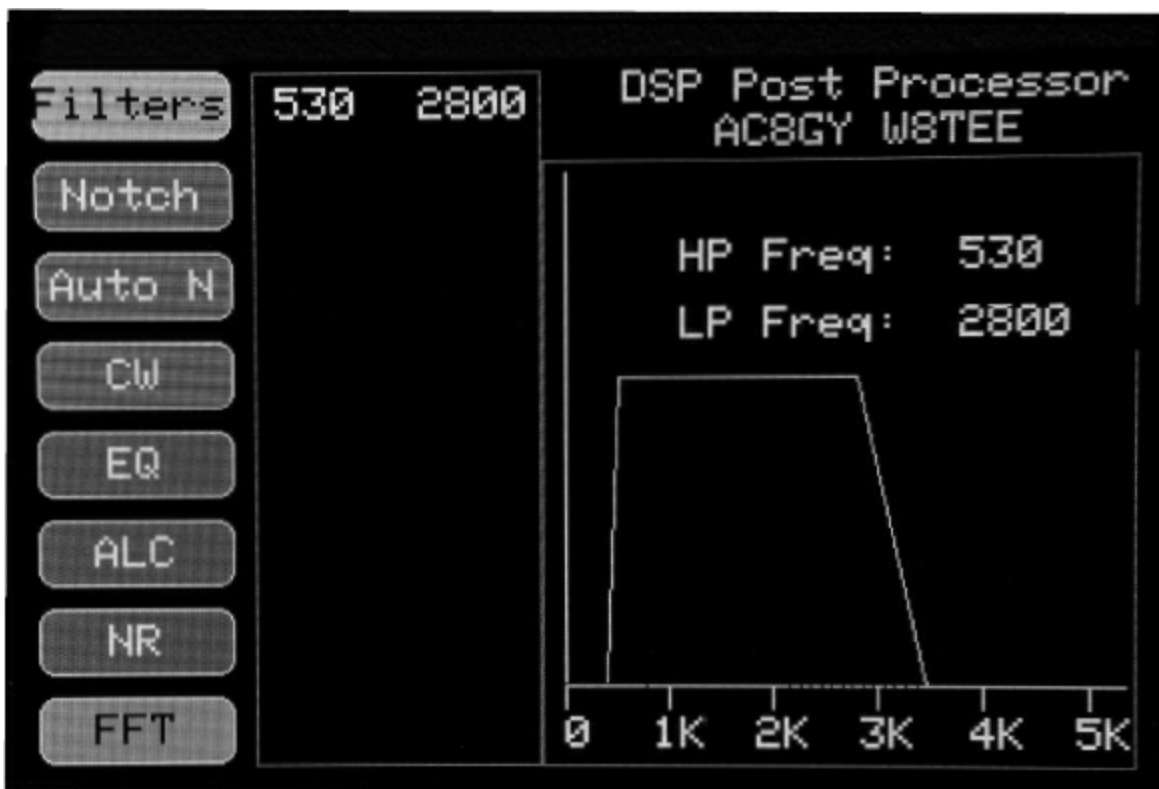

Figure 11.11 — Cutoff filter setting.
- 1) After hooking up the DPP to your rig and some speakers, you must set the parameters for the functions you want to use. To enter the “Set” mode for any function, touch the on-screen function button (such as Filters or Notch — see Figure 11.2) to bring up the setup routine for that function. The current status is displayed next to the screen function button on the left side (see **Figure 11.11** for an example). Using the two encoders, set the parameters for that function. A detailed description of each function’s setup is given below.
Each function is set up in a slightly different way, but the general process is similar for all options. In each case, the desired function is selected by enabling its “Set” mode button as seen on the left side of Figure 11.11.
Both the HP and LP filters are characterized by their -3 dB cutoff frequencies. The encoders allow real-time adjustment of the cutoff frequencies while listening to the result. The HP filter is set with the primary (left) encoder and the LP cutoff is set by the second encoder. Figure 11.11 shows the filter setting screen (note the 530 and 2800 numbers in the setup area of the display, representing 530 Hz cutoff for the HP filter cutoff and 2800 Hz for the LP filter). Simply rotate the encoders while listening to the signal through the speaker or headphones until the desired result is achieved. The -3 dB cutoff frequency is shown both on the graphical display and in the status display.